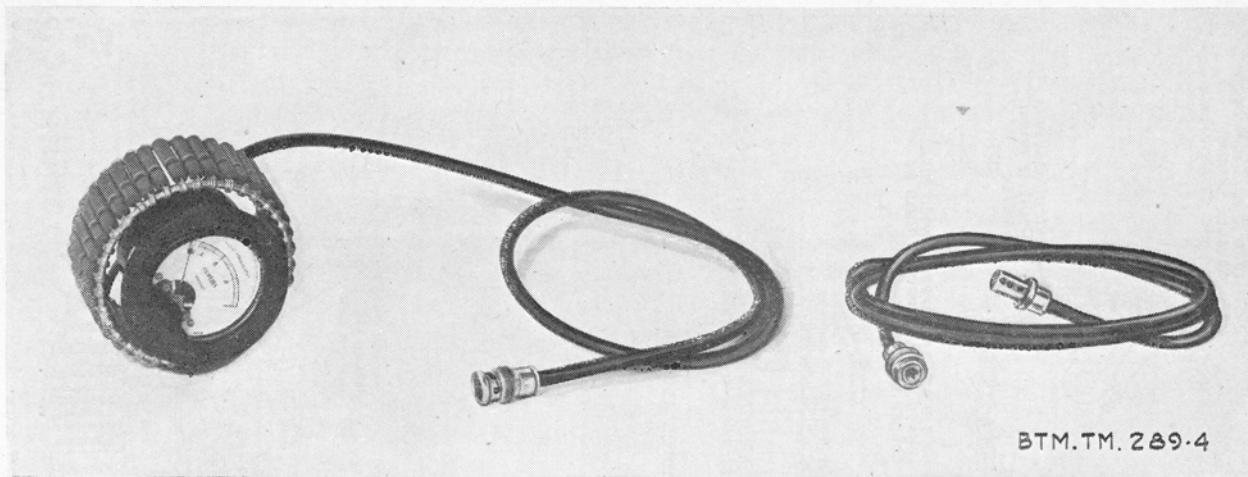

Figure 44. Dummy antenna.
- (1) Dummy antenna, consisting of a 40-ohm, 100-watt, non-inductive type resistor assembly, in series with an r-f ammeter (Weston model No. 425 or equal), or see figure 44.
- (2) Antenna base and mast sections of type to be used with the receiver-transmitter (par. 8a (4)).
- (2) If a 40-ohm, 100-watt, noninductive type resistor is not available, an alternate type of dummy load (fig. 44) can be constructed.
- (3) Connect the dummy load prepared into the ANT connector of the receiver-transmitter.